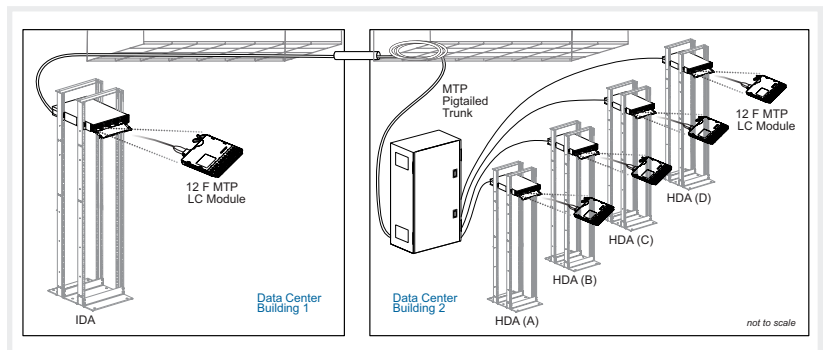

Figure 7: Pigtailed Cable
**Pigtailed cable:** These semi-preconnectorized assemblies are factory-terminated on one end with MTP connectors for easy high-fiber-count deployment while remaining unterminated on the other end to fit through small conduit or allow for onsite length changes. Often used in building-to-building installations, pigtailed cable is ideal for situations when conduit is too small for pulling grips and/or the cable pathway can't be determined before ordering. See Figure 7.